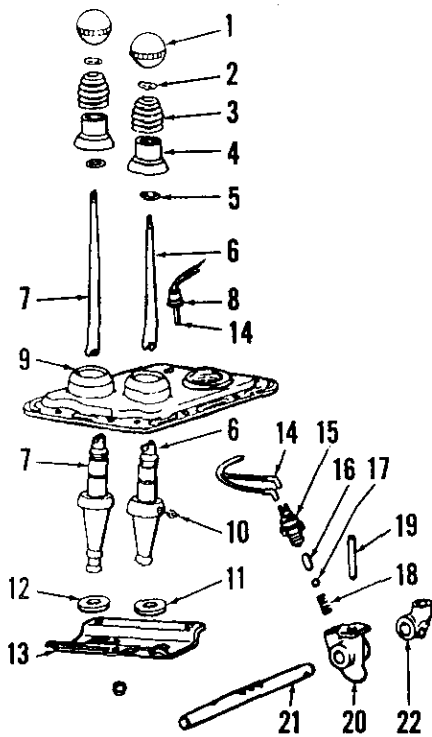

Fig. 186—Exploded view of shift cover and associated parts used on six speed transmission.
Fig. 188—Installed view of safety switch, shift rails and associated parts. Positioning dowel (19) is pressed into top cover and enters locating hole in retainer (20). Refer to Fig. 186 for parts identification and to Fig. 189 for assembled view of cover.